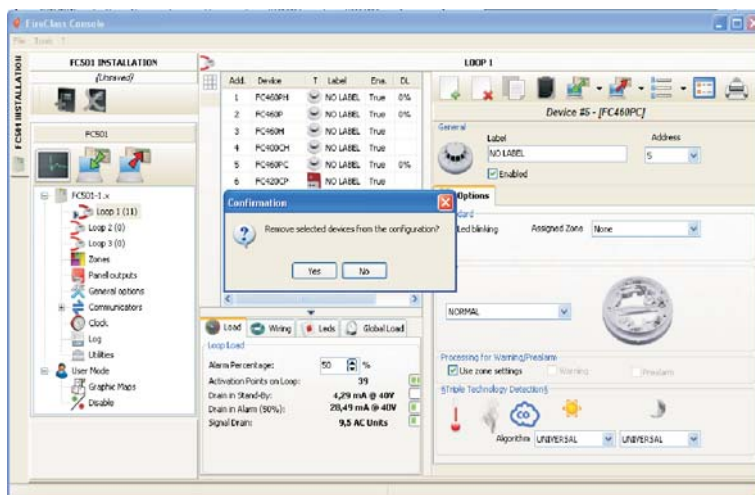

Figure 24 Detector Disablement confirmation window.
**Remove devices** Select the device in the list, then click on “Remove device” , and then click YES to remove or NO to cancel (see Figure 24).